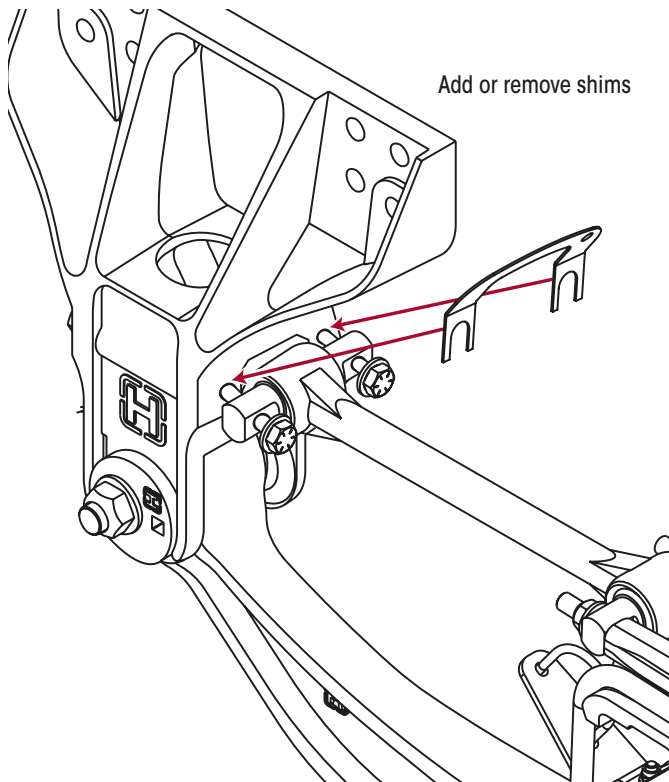

Figure 40: Add or remove shims as required to adjust pinion angle
2. Install or remove shims as required in equal amounts to both sides of the axle to achieve the proper pinion angle. Refer Figure 40. Basically, install shims to increase the pinion angle and remove shims to decrease the pinion angle.